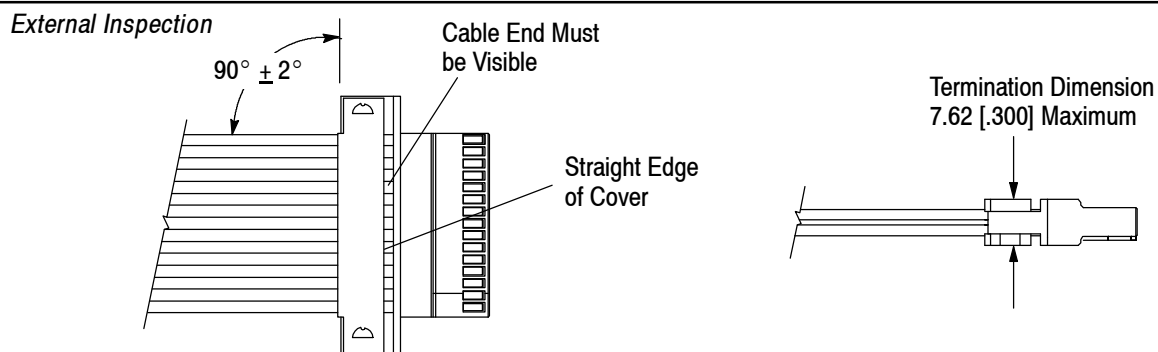

Figure 17
A. External Inspection (Figure 17)